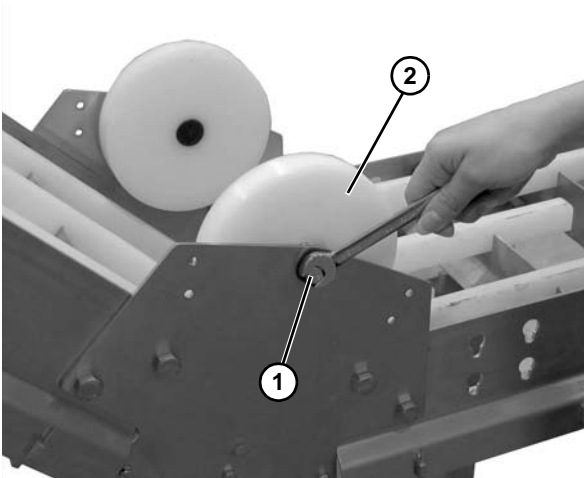

Figure 58
3. Remove the cap screw (**Figure 58, item 1**) and the hold down roller (**Figure 58, item 2**). Repeat on opposite side of the conveyor.